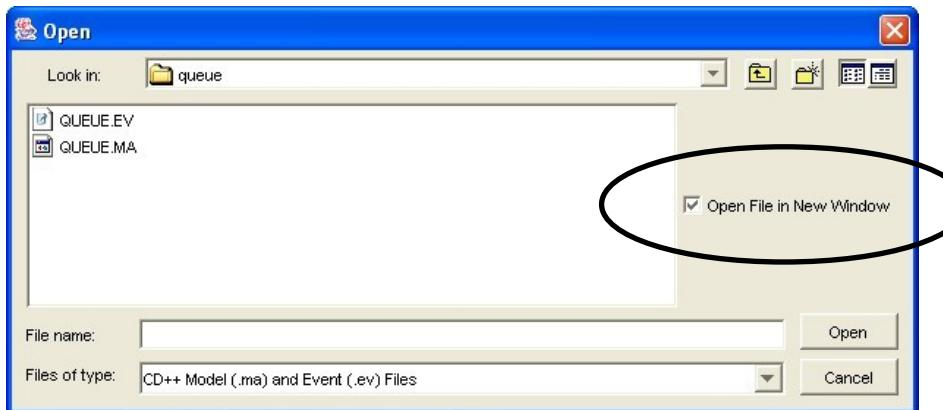

Figure 72: Open File Dialog box
2. Select the file to be opened (refer to Figure 72).